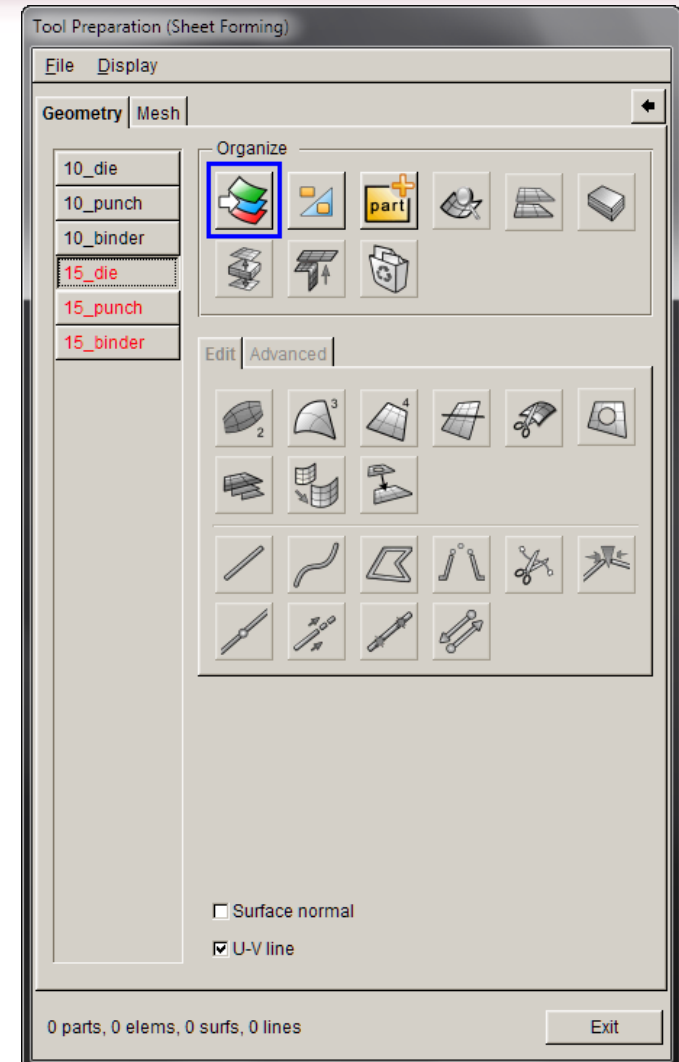

Figure 55
3. Click **Define Tool** icon in **Tool Preparation** dialog box. (Figure 55).